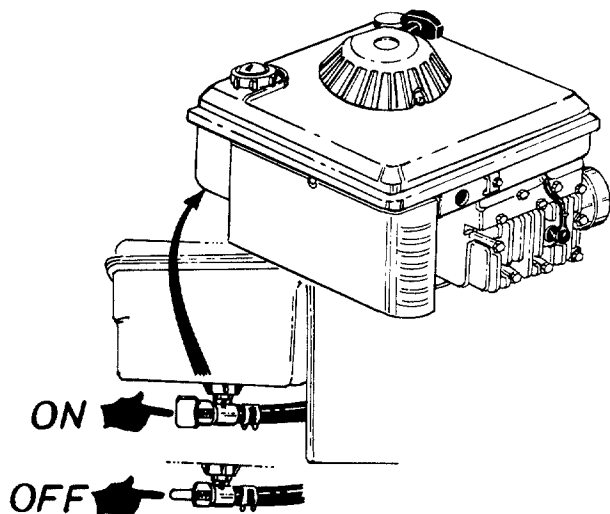

FIGURE 21.
5. Open fuel shut-off valve, located beneath the fuel tank. See figure 21.